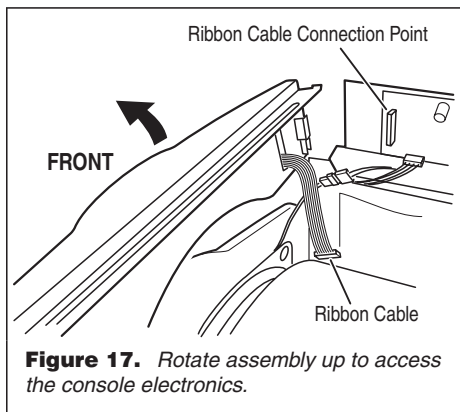

Figure 17. Rotate assembly up to access the console electronics.
- Perform steps 1 and 2 under Accessing & Removing the Electronic Assemblies, page 7, then disconnect the ribbon cables that run between the console and the machine control board. Make the disconnection at the machine control side. Remove the two screws that fasten the console assembly to dryer, then remove the console assembly, sliding it up and off from the front of the machine. See figure 17.